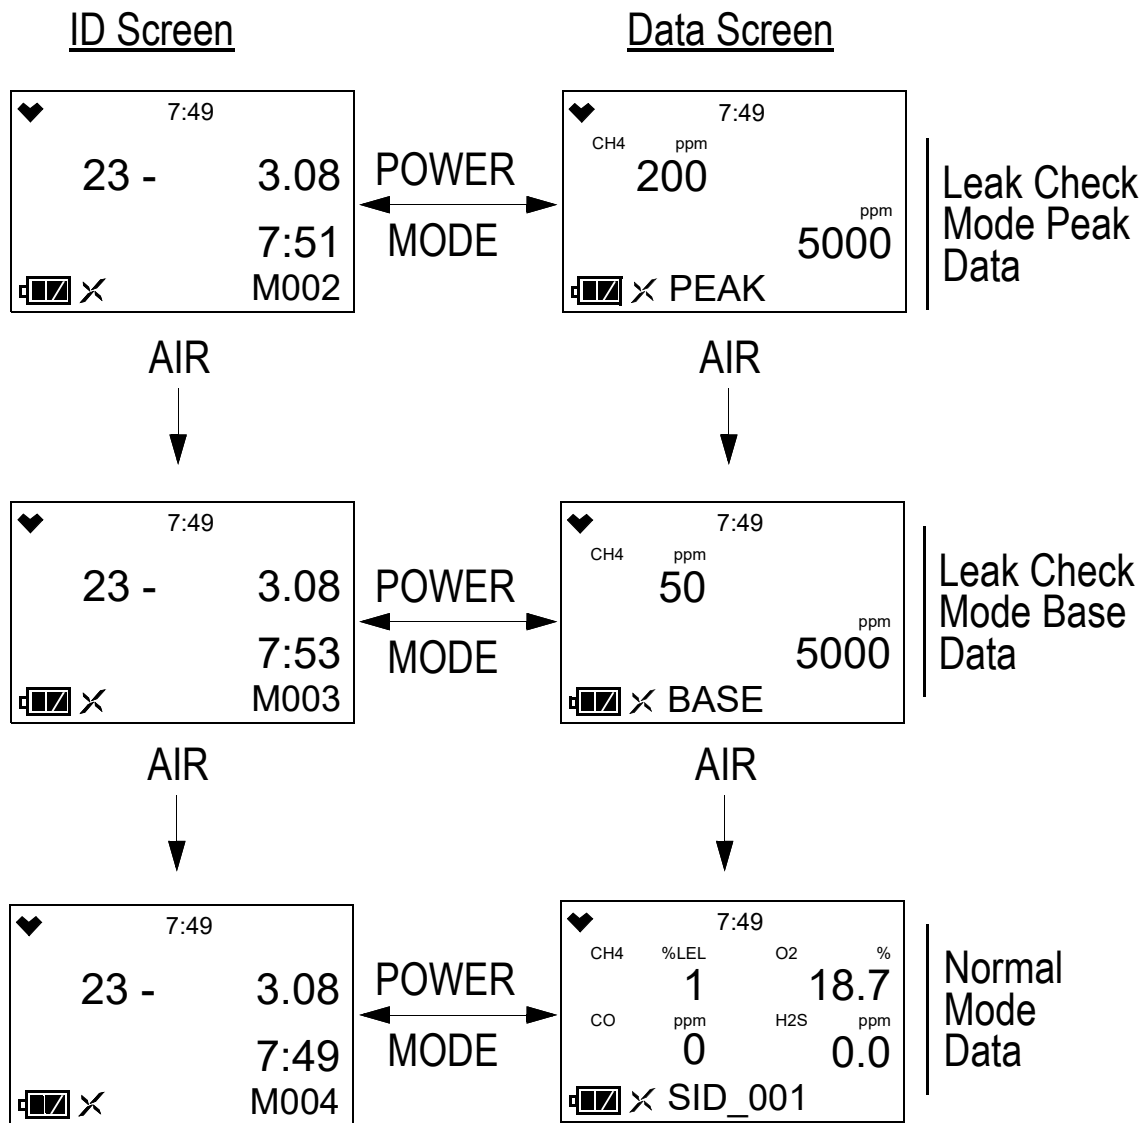

Figure 12: Snap Log View Navigation
8. You can also go back and forth between the ID and data screens by pressing and releasing the POWER MODE button. Refer to Figure 12 for a diagram of the Snap Log screens.